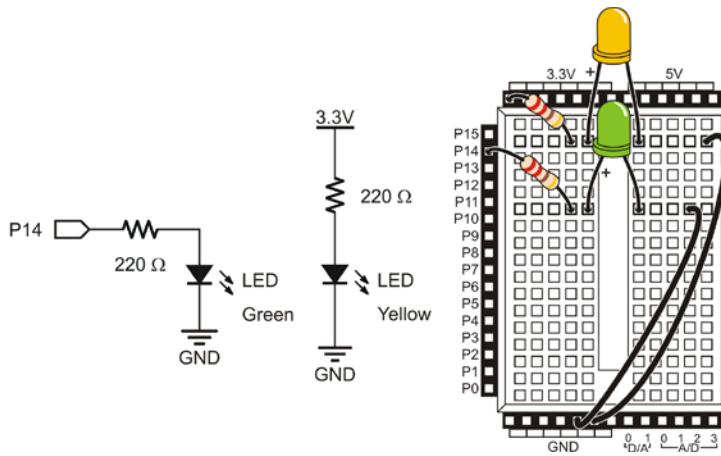

Figure 2-13
- Construct the second circuit as shown in Figure 2-13.